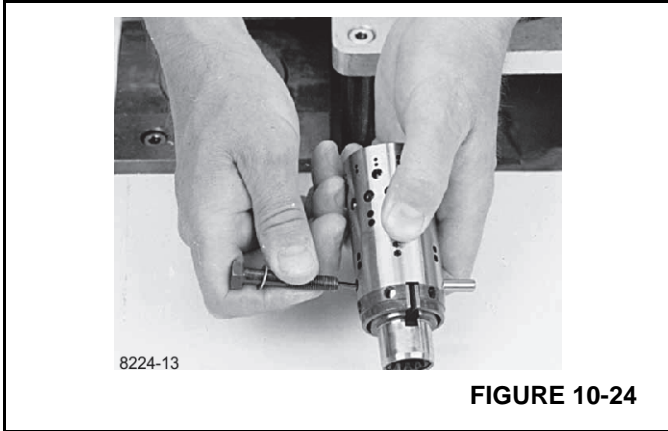

FIGURE 10-24
11. Press out the cross pin. Use the special screw from the end cover (Figure 10-24).